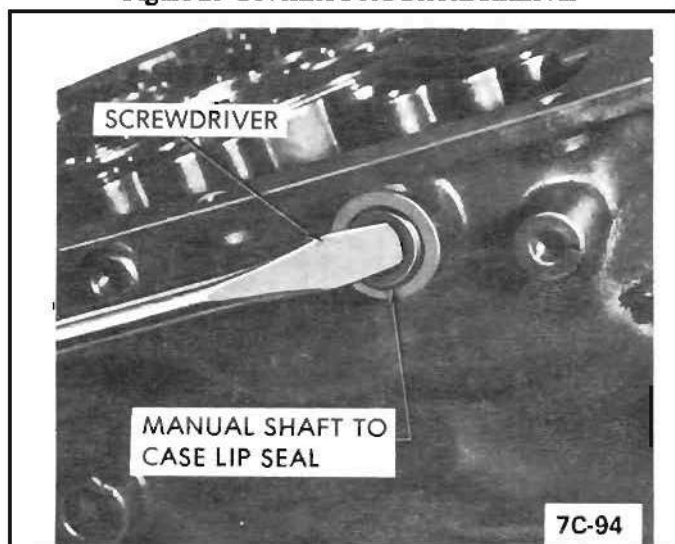

Figure 26 Manual Shaft Lip Seal Removal
- c. Remove manual shaft to case lip seal, if necessary. See Figure 26.